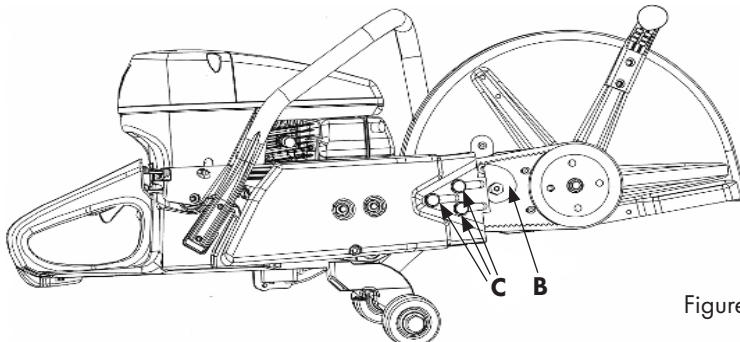

Figure 16
- Turn the clamping screw (B) so that the nut (C) is directly under the arrow on the cover, Fig. 16.
- Tighten the two screws (A) firmly.